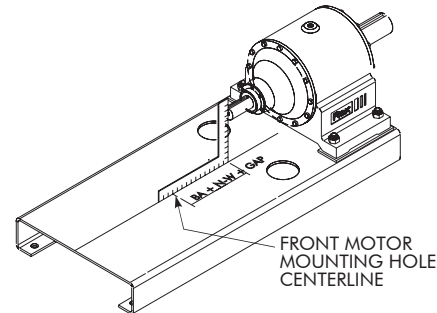

Figure 4A — Layout of Motor Mount Holes
- With a carpenter's square positioned as shown in Figure 4A, measure off the distance that was calculated where the center of the front motor mounting holes are with respect to the end of the reducer input shaft. Mark the distance on the center line.